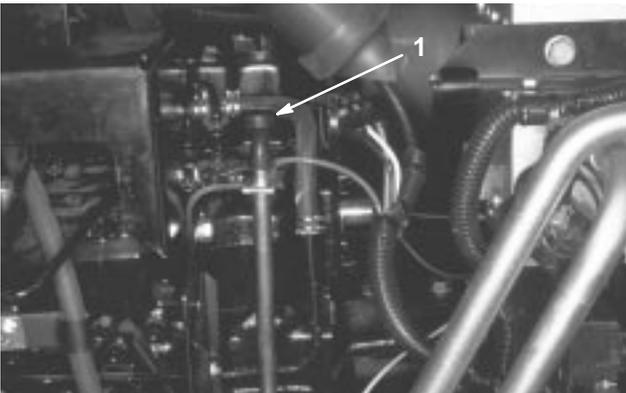
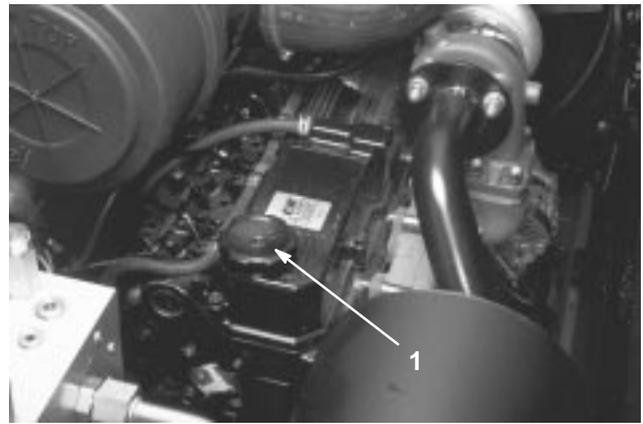

Figure 34
Figure 35
2. Remove dipstick, wipe with clean rag (Fig. 34) and fully insert in tube. Remove from tube and check oil level. Level should be between the marks on the dipstick. If level is low, remove filler cap (Fig. 35). Add oil until level is to top mark on dipstick. **Do not overfill.**